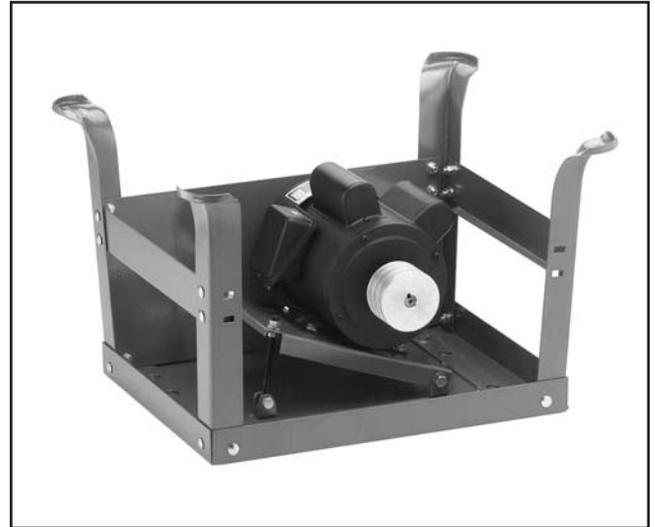

Figure 7. Legs, braces, and one stand side attached to stand
7. Attach the two horizontal braces to the legs and secure with the $\frac{5}{16}$ "-18 x $\frac{1}{2}$ " carriage bolts, washers and nuts provided. Attach one of the stand sides on the opposite side of the pulley slot in the stand top. Your assembly should now look like **Figure 7**.